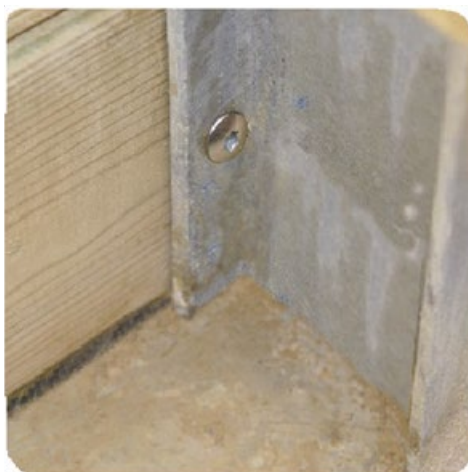

Figure 13 – *Fastening the slats to the supporting braces*
- fix them to the 8 supporting braces (these are pre-drilled as shown in *Figure 13*) using 80 torx safety screws 6 × 30 A2 SS (bag D).